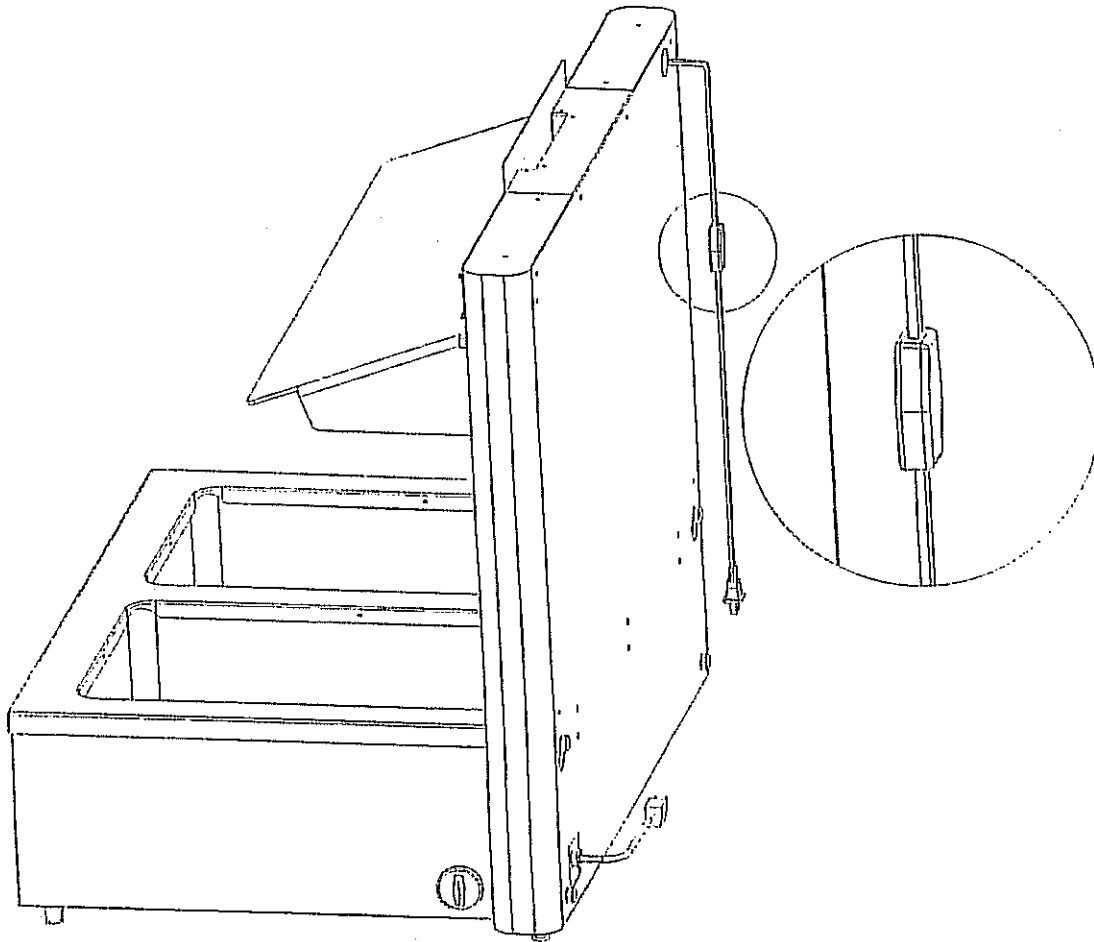

Figure 3.2 Light Switch
1. Turn light switch to ON (figure 3.2, pg. 7).